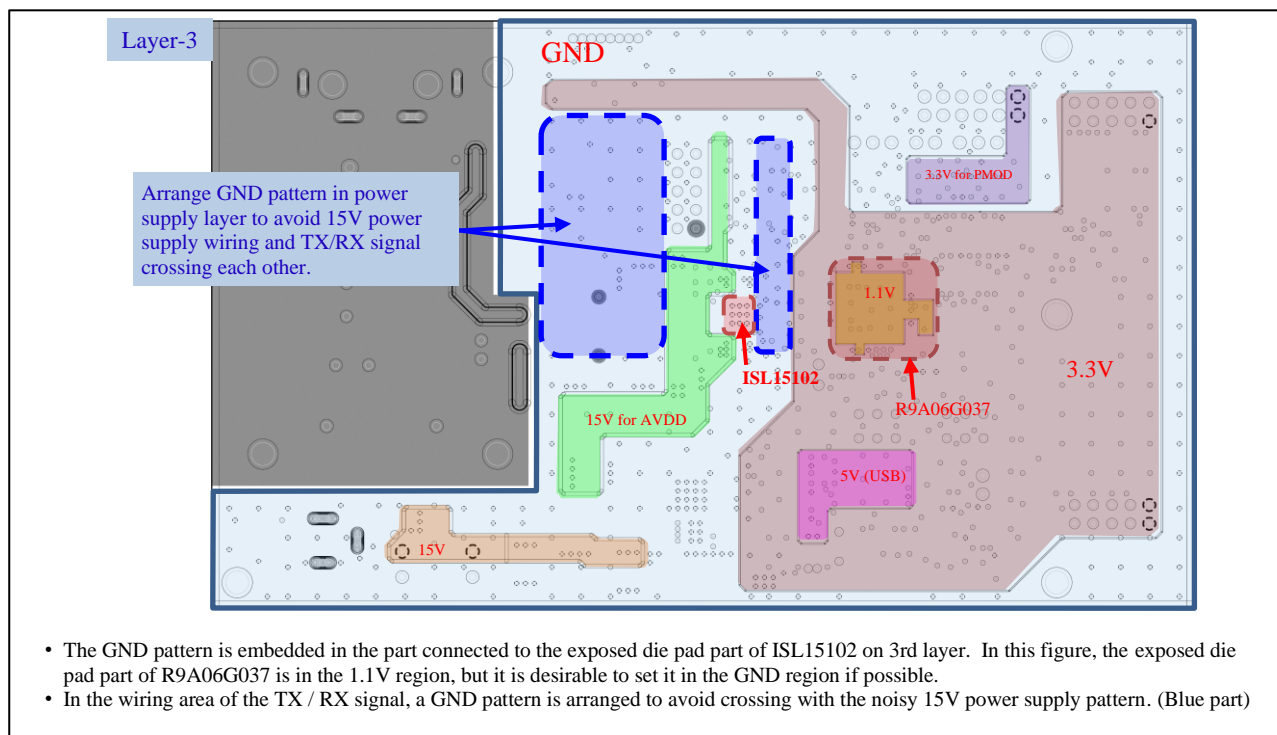

Figure 2-14 Example of connection between exposed die pad of R9A06G037 and ISL15102 and GND pattern (3rd Layer)
- In the power supply layer of the 3rd layer, place a GND pattern in the via hole part connected to the Exposed die pad of R9A06G037 and ISL15102. (An example is shown in Figure 2-14.)